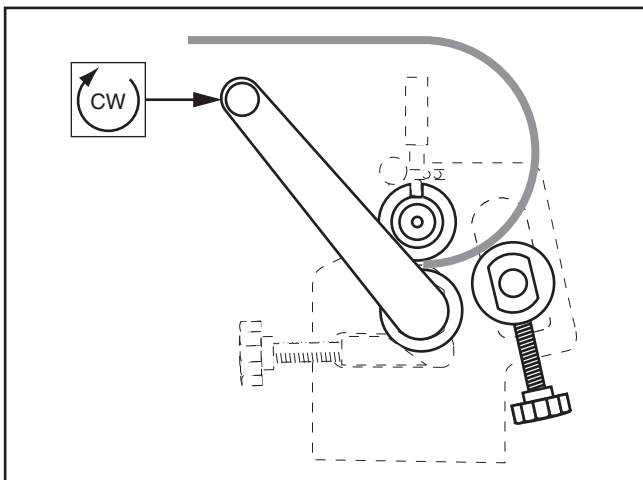

Figure 24. Feeding workpiece through machine.
6. Turn crank handle clockwise to feed workpiece through machine. Continue turning until workpiece is completely through upper and lower rollers (see **Figure 24**).